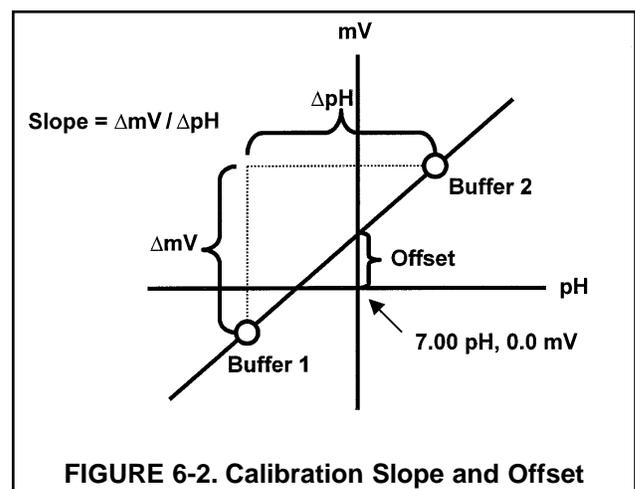

FIGURE 6-2. Calibration Slope and Offset
2. SLOPE AND OFFSET. Once the Model 30 successfully completes the calibration, it calculates and displays the calibration slope and offset. The slope is reported as the slope at 25°C. Figure 6-2 defines the terms.
2. **SLOPE AND OFFSET.** Once the Model 30 successfully completes the calibration, it calculates and displays the calibration slope and offset. The slope is reported as the slope at 25°C. Figure 6-2 defines the terms.